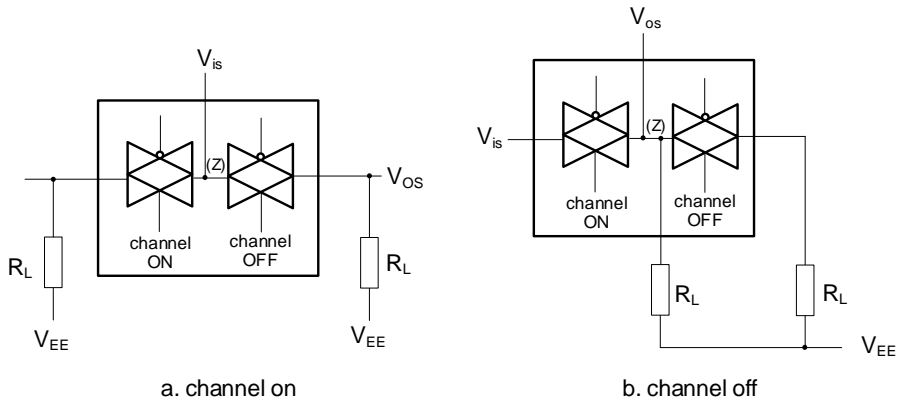

Figure 8-8 Inter channel Crosstalk
- (1) f_i is biased at $0.5V_{DD}; V_i=0.5V_{DD}$ (p-p).
- (2) $R_L=1k\Omega; 20\log V_{os}/V_{is}=-50dB,$ see Figure 8-8.